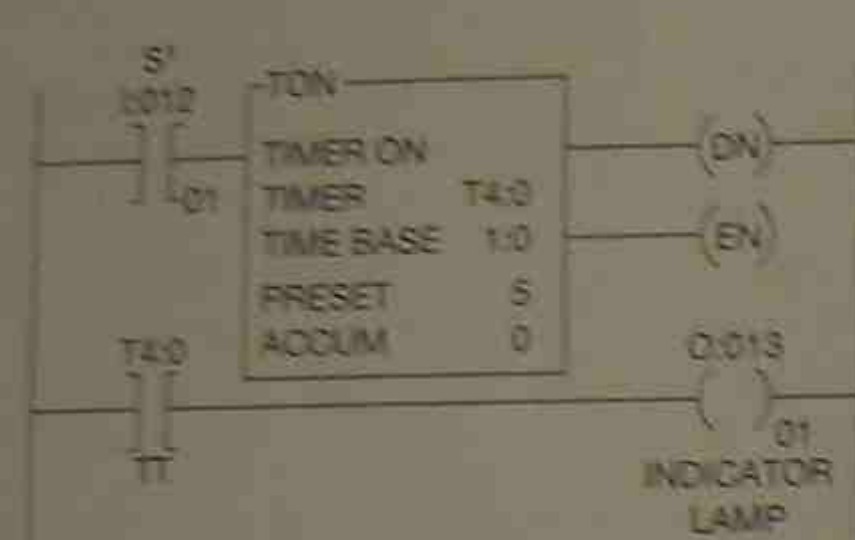

Figure 12-17a TT Bit Used to Control an Indicator Lamp
**Note:** The TT bit can be used to control a timer timing light that is only ON when the timer is actually timing. Figure 12-17a shows how the TT bit is used to control an indicator light, and Figure 12-17b shows the equivalent circuit using a pneumatic timer.